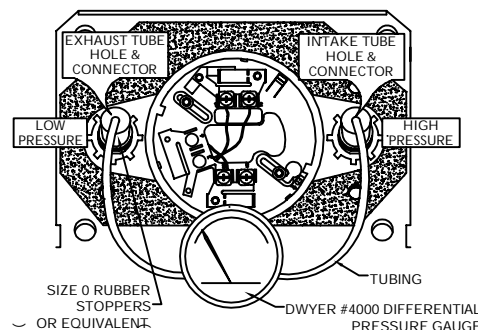

FIGURE 5. AIR SAMPLING VERIFICATION
To verify proper sampling of air, use a Dwyer Model 4000 differential pressure gauge (or equivalent). See Figure 5 for gauge connections (FCD-350-DH detector not shown). The pressure differential between input sampling tube and exhaust tube should be greater than 0.01" of water and less than 1.2" of water. Return cover and tighten captive screws. Ensure the catch is engaged by pushing from the outside. There should be a solid green pilot indication. Indication is independent of seal integrity.
Testing can be accomplished with the cover installed or removed. Place the magnet (Part #0700-01117 or suitable bar magnet) on the detector as shown in Figure 4 / Figure 5 for approximately six (6) seconds to activate the alarm LEDs and relays. This test will verify that the detector is within its intended limits.